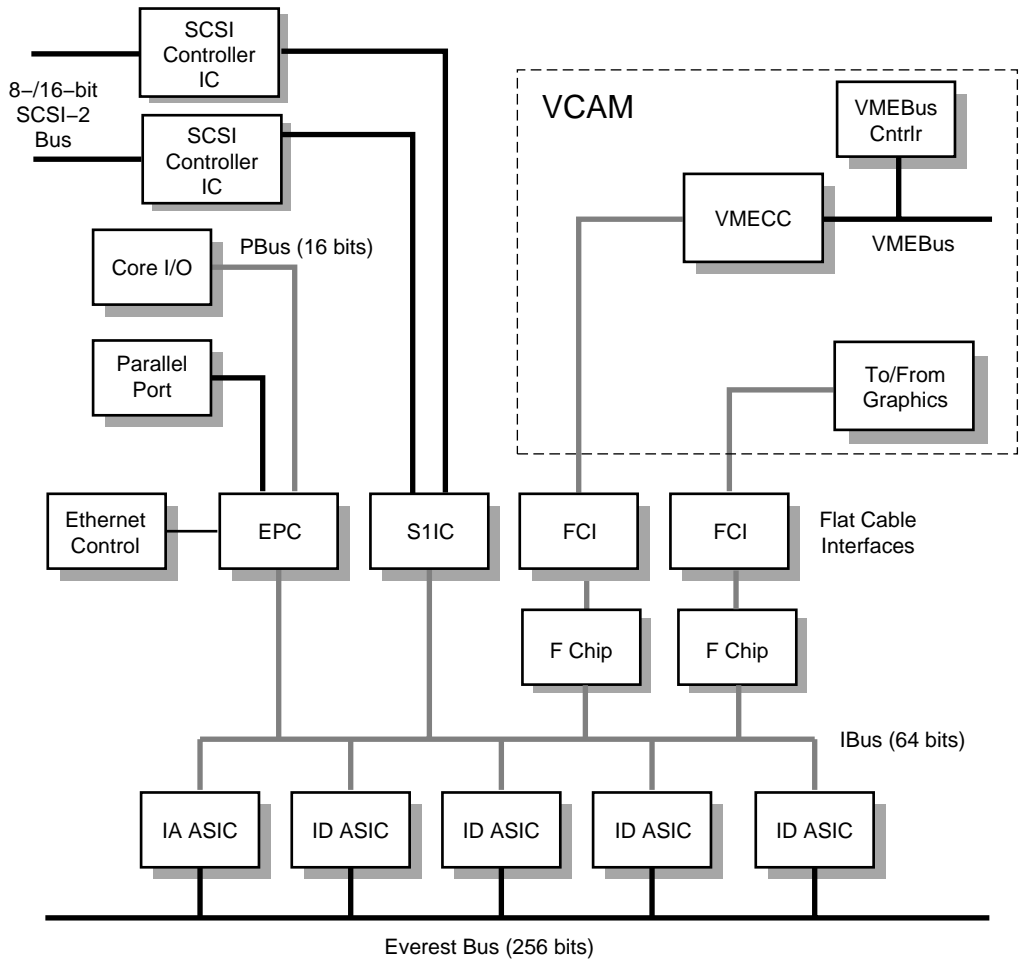

Figure E-2 IO4 Base Board Functional Block Diagram
See Figure E-2 for a functional block diagram of the IO4 board.
Communication with the VME and SCSI buses, the installed set or sets of graphics boards, and Ethernet takes place through the 64-bit Ibus (see Figure E-2). The Ibus interfaces to the main system bus, the 256-bit Ebus, through a set of interface control devices, an I address (IA) and four I data